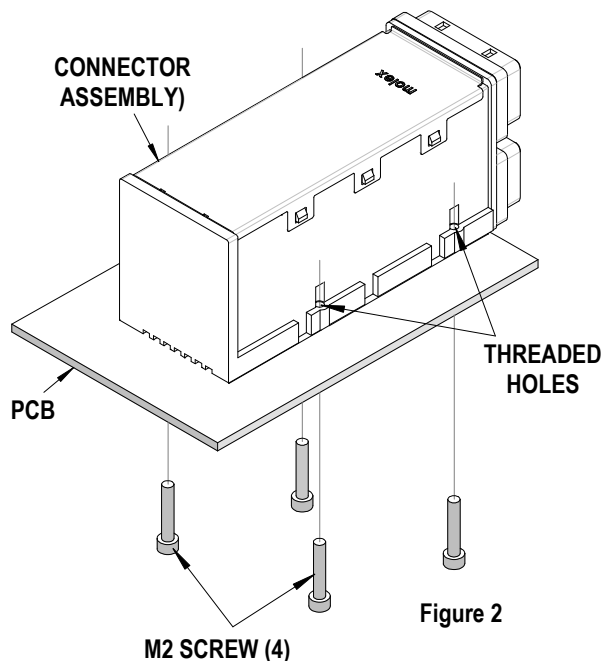

Figure 2
The connector assembly is held to the printed circuit board with (4) M2 screws. Before any removal operation is done, these M2 screws must be removed. See Figure 2.